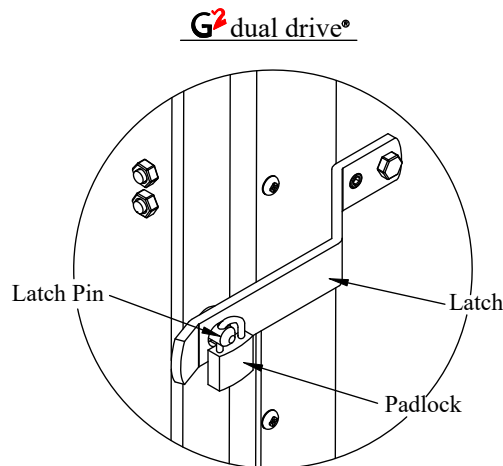

Figure 17: Padlock location.
9. **Lock** the padlock through the hole in the latch pin (Figure 17).